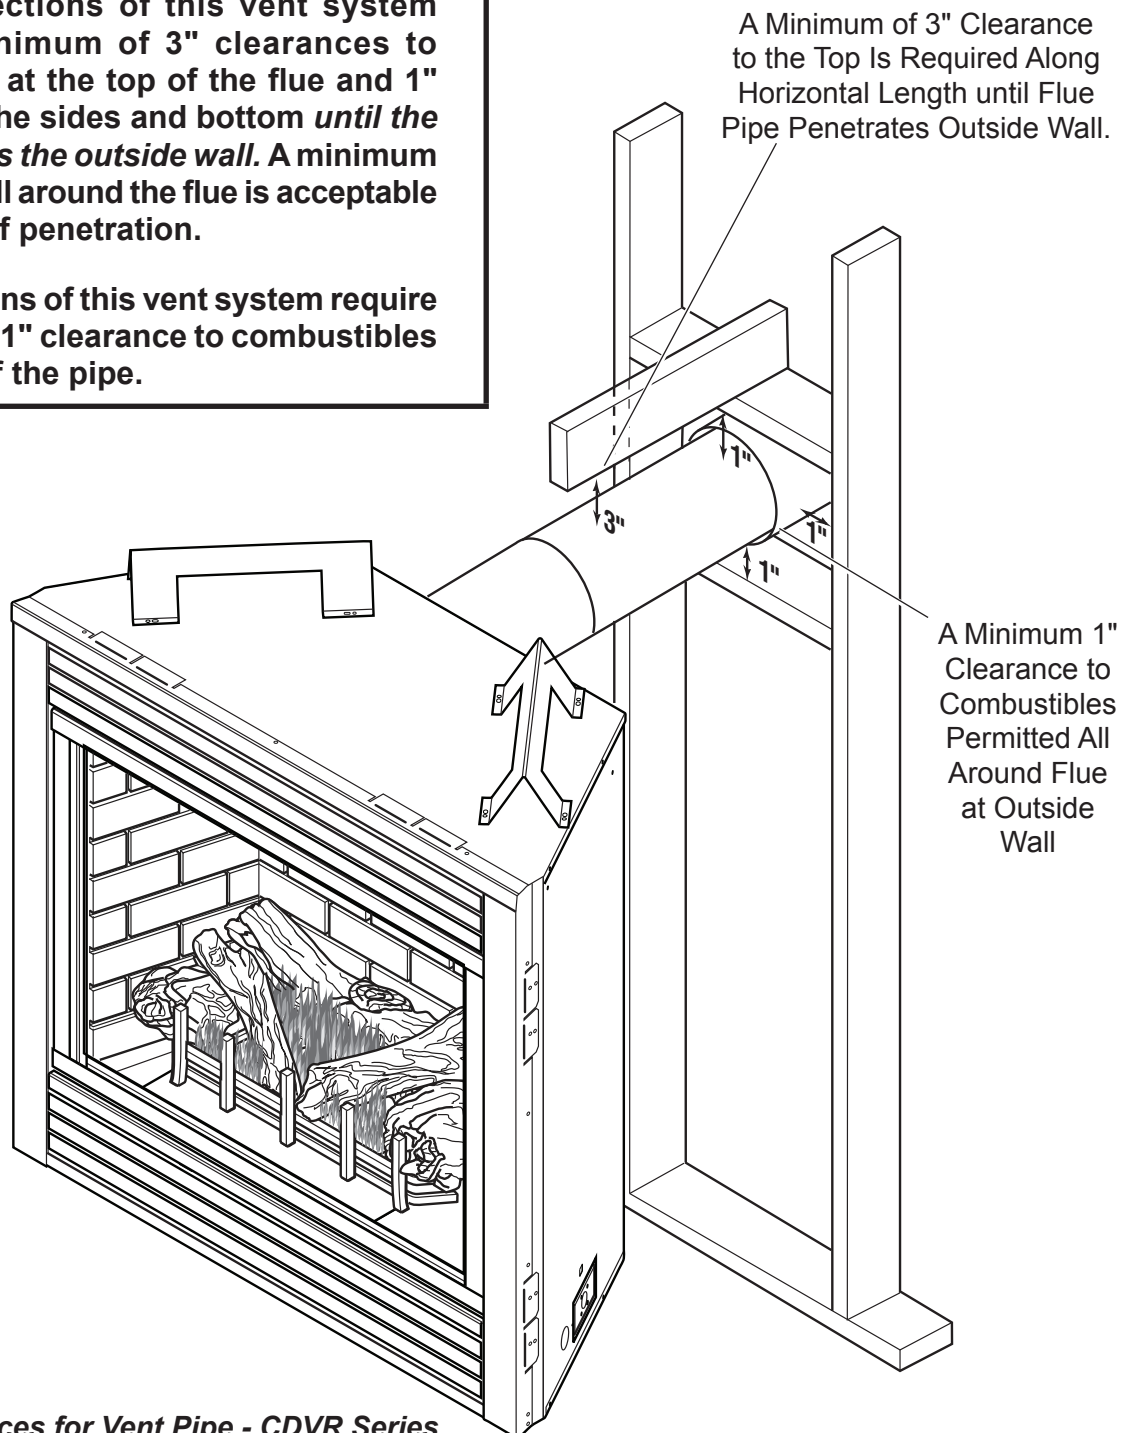
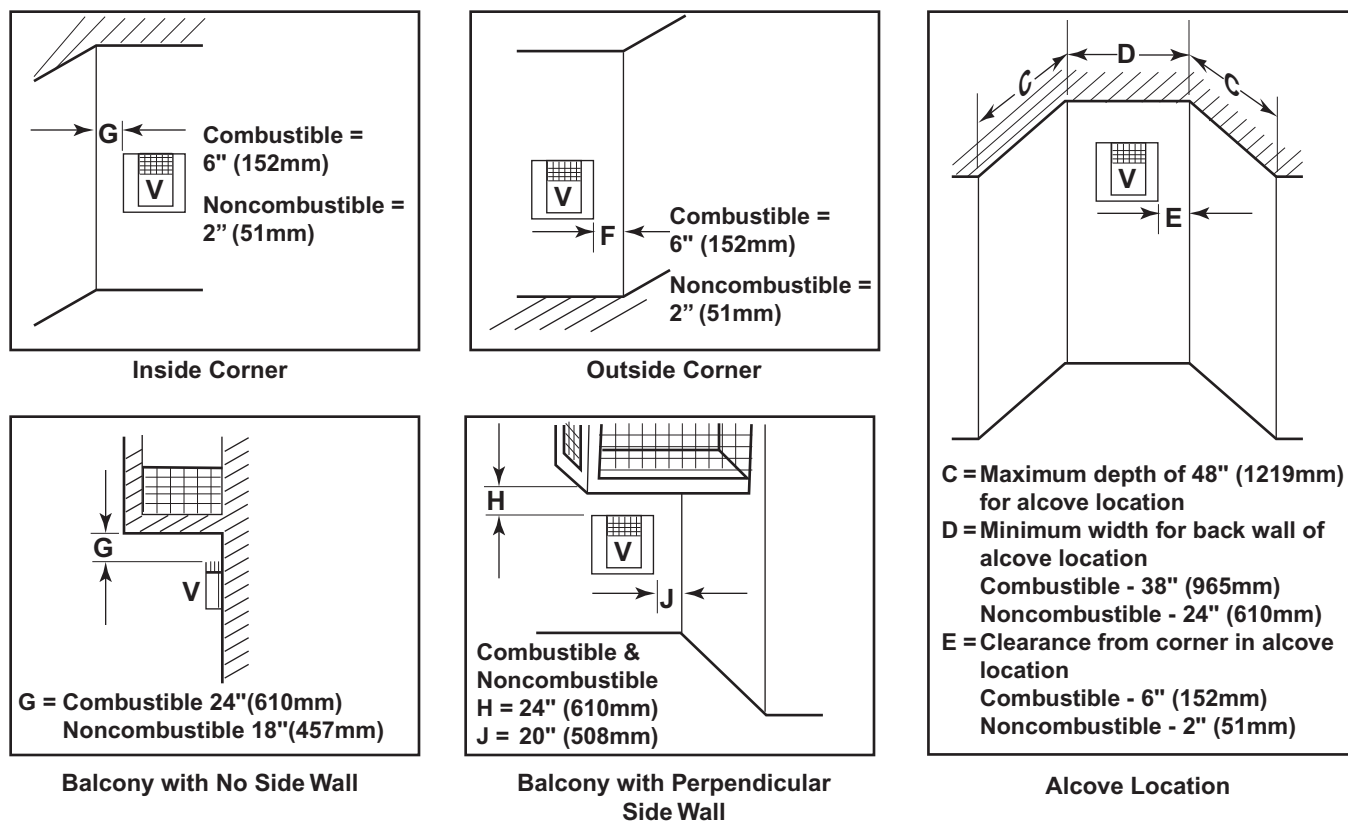

Figure 9 -
Figure 12 - Allowable Venting Chart
- D = Vertical clearance to ventilated soffit located above the terminal within a horizontal distance of two (2) feet (610mm) from the centerline of the terminal [$\geq 18"$ (457 mm) minimum].
- F = Clearance to an outside corner. *Figure 12.*
- G = Clearance to an inside corner. *Figure 12.*
- H = **Not to be installed above a gas meter/regulator assembly within three (3) feet (914mm) horizontally from the centerline of the regulator.*
- M = Clearance under veranda, porch, deck, or balcony. Refer to Figure 9 [*In Canada* $\geq 12"$ (305 mm) minimum].